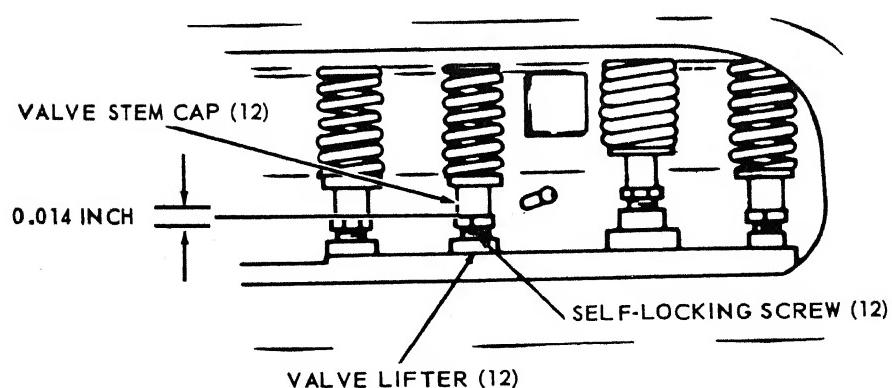

Figure 3-54. Valve adjustment.
b. Adjust the valves as instructed on figure 3-54.